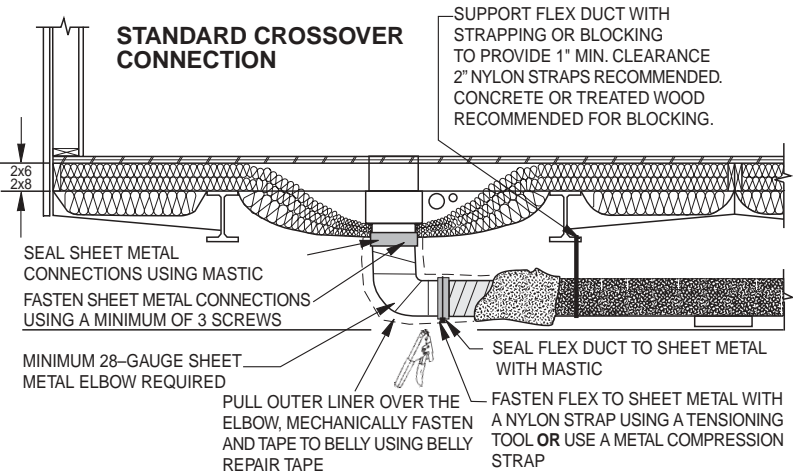

Figure 13
- Seal all penetrations. Sealing considerations outlined in Figure 13 also apply to sealing the tub P-trap when the trap arm is below the floor.